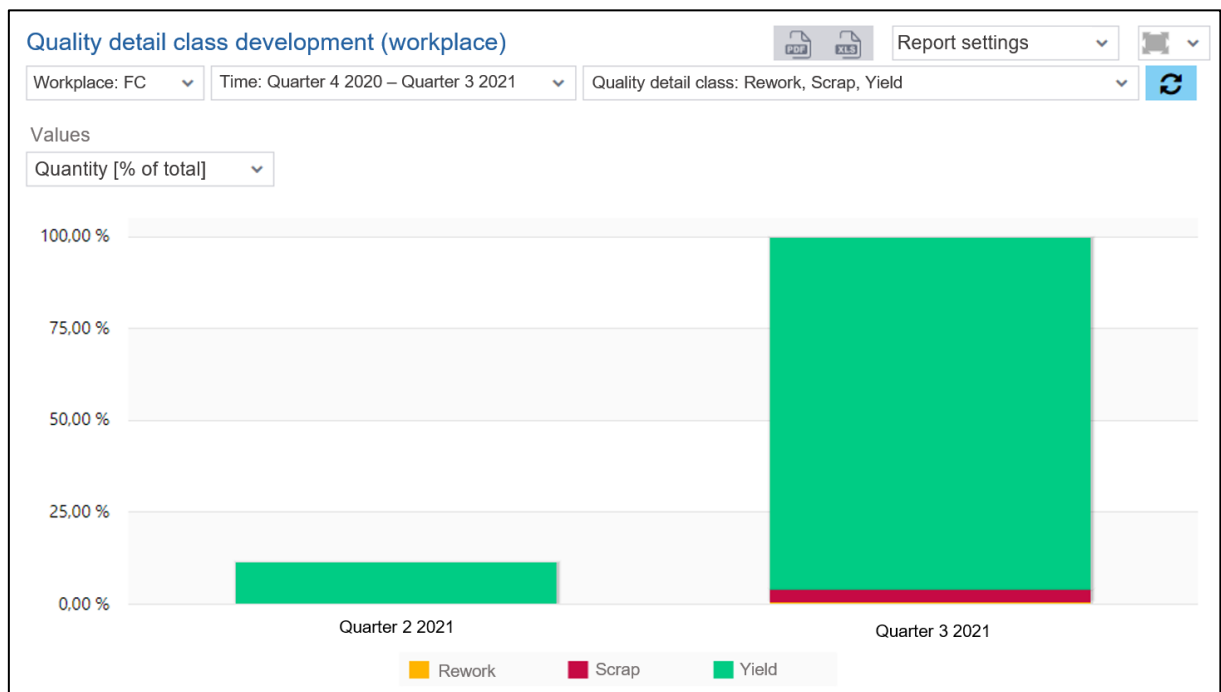

Fig. 113: Quality detail class development (workplace) as a bar chart
- Quality detail class development (development per workplace) as a column chart (fig. 113): Quality detail classes with percentage of total quantity as bars. Each bar represents the quality detail classes for a selected time period (week, month, year, etc.).